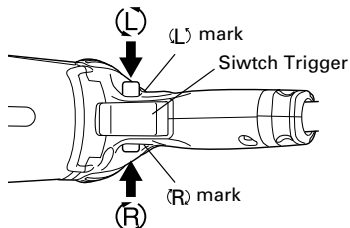

Fig. 6
**7. Check the rotational direction (Fig. 6)**